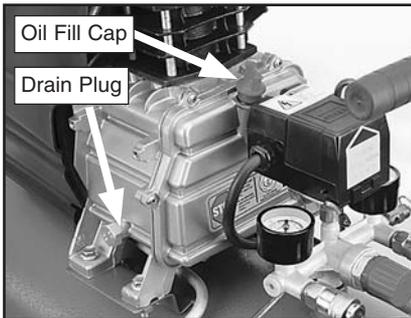

Figure 18. Drain plug and oil fill cap.
3. Using a 19mm wrench, remove the drain plug shown in **Figure 18**.
5. Reinstall the drain plug, and remove the oil fill cap shown in **Figure 18**.